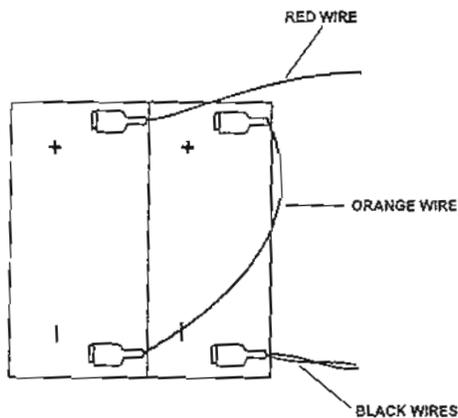

Figure 3-9. Battery pack.
(11) Verify that terminal connecting wire colors and battery pack terminal markings match the illustration in figure 3-9.
(1) Acquire either one or both batteries, if necessary.
(2) Position and band the batteries together by following figure 3-9 and transfer the orange wire jumper to the replacement battery pack.
(1) Place the battery pack into the lower section of the case with the battery pack terminals and colored wire terminals matching figure 3-9.
(2) Reconnect the red and black wire female spade terminals.
(3) Verify the correct battery pack orientation and terminal connections.
(4) Reposition the battery pack onto its side with the terminals facing outward to the side of the lower section of the case.
(5) Reinstall the battery pack bracket onto the two projecting screws.
(6) Reinstall the two Keps nuts.
(7) Reposition the control panel onto the lower section of the case.